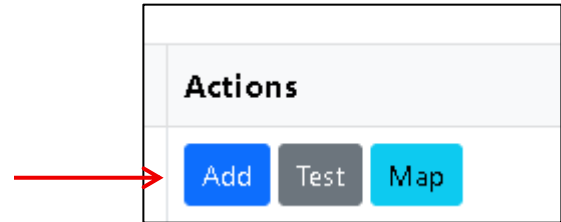

Figure 16: The Add action for a data source
- 1) On the **Data Connections** page, click **Add** next to the table you want to configure (fig. 16).